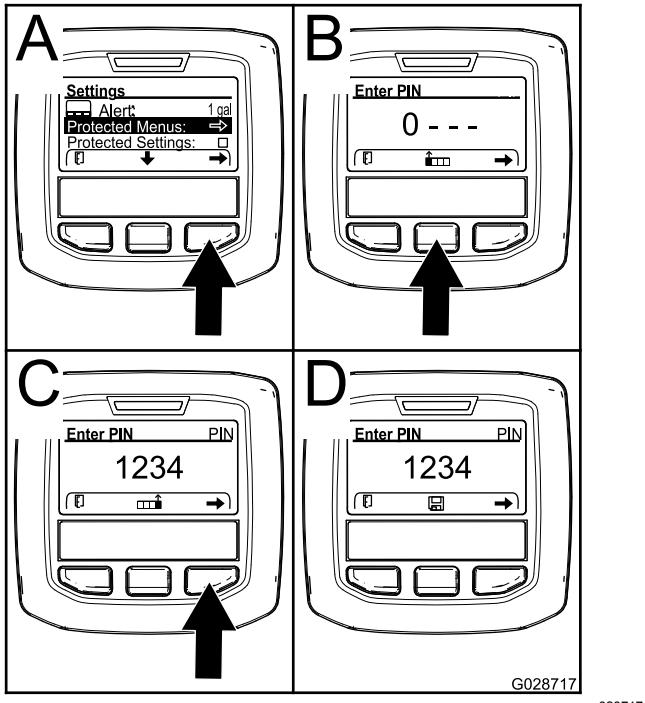

Figure 72
4. Press the right select button to select Protected Menus (A of Figure 72).
- Press the center selection button (B of Figure 72) to increase the numerical value (0 to 9)
- Press the right selection button (C of Figure 72) to move the cursor to the next numerical position to the right.
**Note:** The Save icon will appear above the center selection button (D of Figure 72).